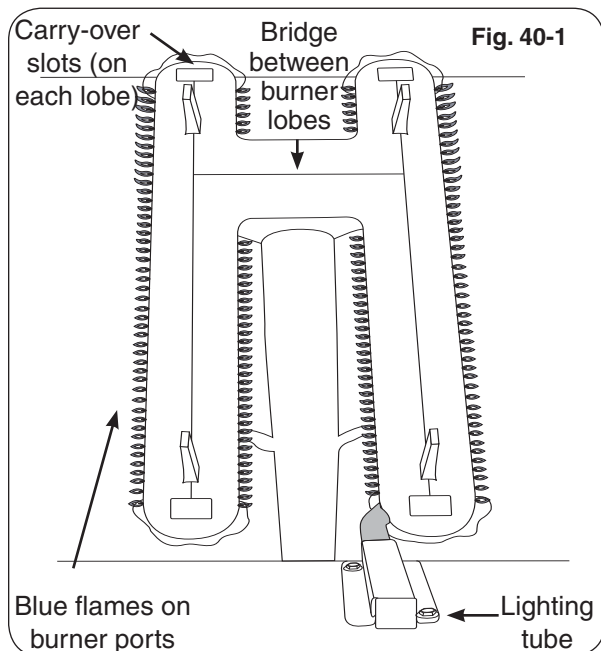

Fig. 40-1
Flames from a properly adjusted main burner with no wind or breeze present will appear fairly steady, consistent, and mostly blue. If the tip of a flame were to turn orange, it should only do so briefly and then become blue again. The flames will appear to burn while touching the burner ports (see Figure 40-1).
6. Repeat steps 1-4 until the flames appear to touch the burner ports, burning fairly steadily and mostly blue (see Fig. 40-1).